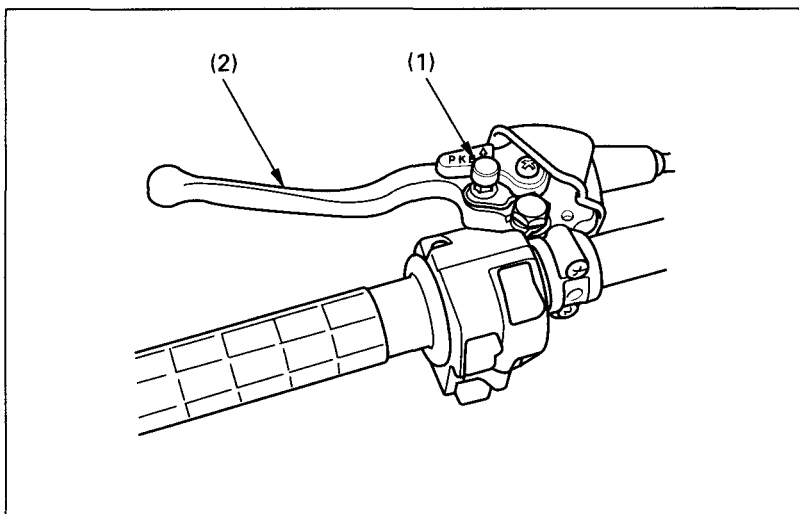

Fig. 2-14 (1) Reverse selector knob (2) Rear brake lever
The reverse selector knob (Fig. 2-14) (1) is on the rear brake lever.